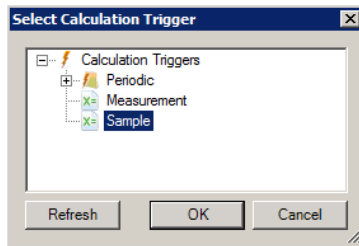

Figure 5 Select the Sample Trigger
- Click on the button for the Trigger selection to open the trigger browser as shown in Figure 5.